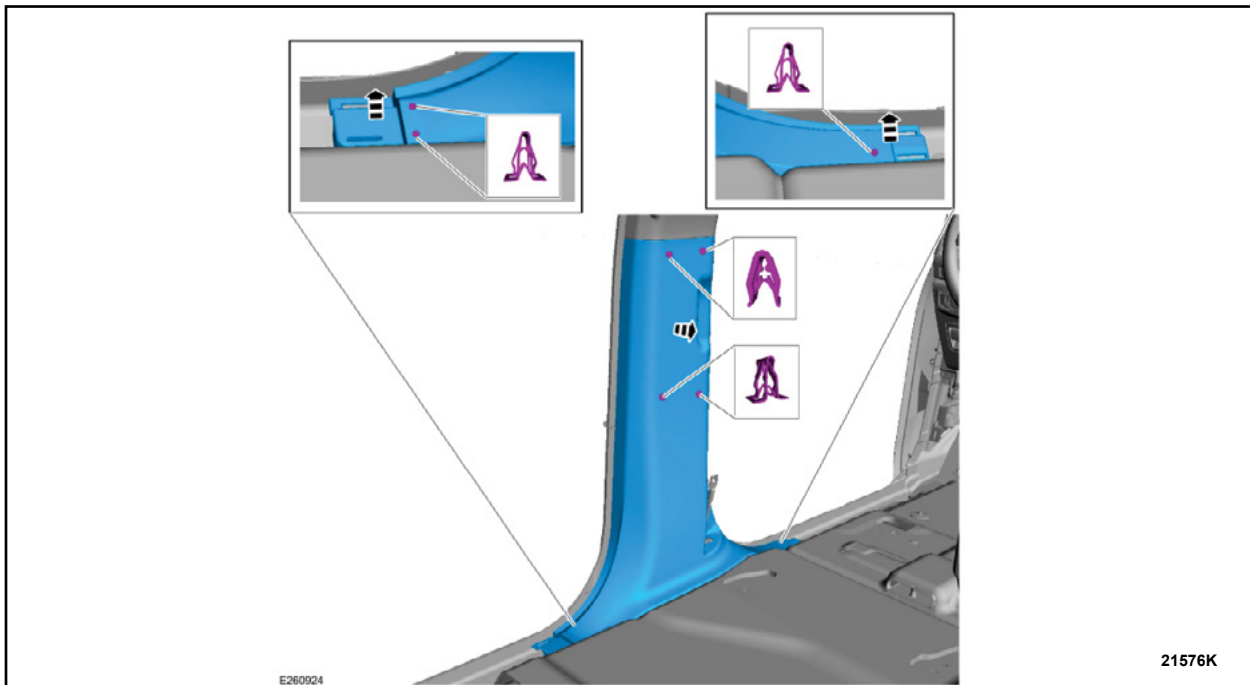

FIGURE 18
10. Release the clips and remove the lower B-pillar trim panel. See Figure 18.